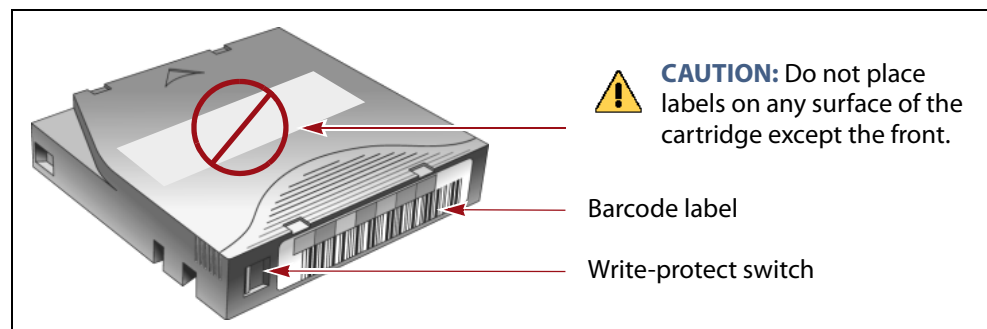

Figure 135 Attach barcode labels to cartridges and check write-protect switch setting (LTO cartridge shown).
1. If your cartridges are unlabeled, prepare and affix a barcode label to each cartridge. Position each label in the indented area on the cartridge, as illustrated in Figure 135. See Barcode Label Specifications on page 557 for detailed information about barcode labels.
Do not place labels on any surface of the cartridge except the area shown in Figure 135. An improperly positioned label can become dislodged and damage the drive.